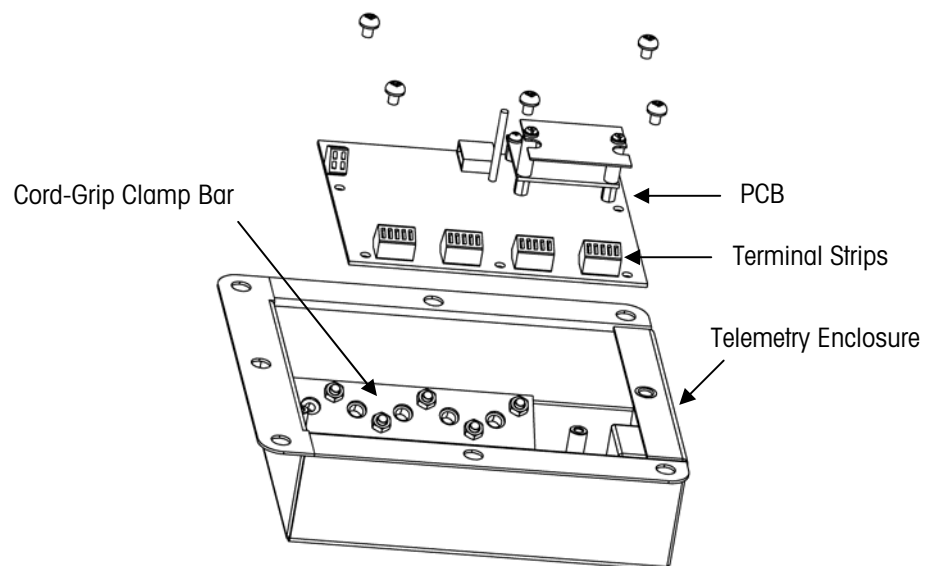

Figure 6-3: Telemetry Enclosure
6. Remove the five Phillips head screws that attach the PCB to the enclosure. Move the PCB out of the way so that you have access to the cord-grip clamp bar (see Figure 6-3). In order to remove the PCB, you might need to disconnect the battery wires and unplug the inclinometer.
9. Tighten the six nuts on the cord-grip clamp bar (see Figure 6-3). Use a nut driver to tighten the nuts. Be careful to tighten the nuts only to the point at which the cables will not slide through the cord grips. Do not overtighten the nuts.
12. Remove the five Phillips head screws that attach the PCB to the enclosure. Move the PCB out of the way so that you have access to the cord-grip clamp bar (see Figure 6-3). In order to remove the PCB, you might need to disconnect the battery wires and unplug the inclinometer.
10. Tighten the six nuts on the cord-grip clamp bar (see Figure 6-3). Use a nut driver to tighten the nuts. Be careful to tighten the nuts only to the point at which the cables will not slide through the cord grips. Do not overtighten the nuts.